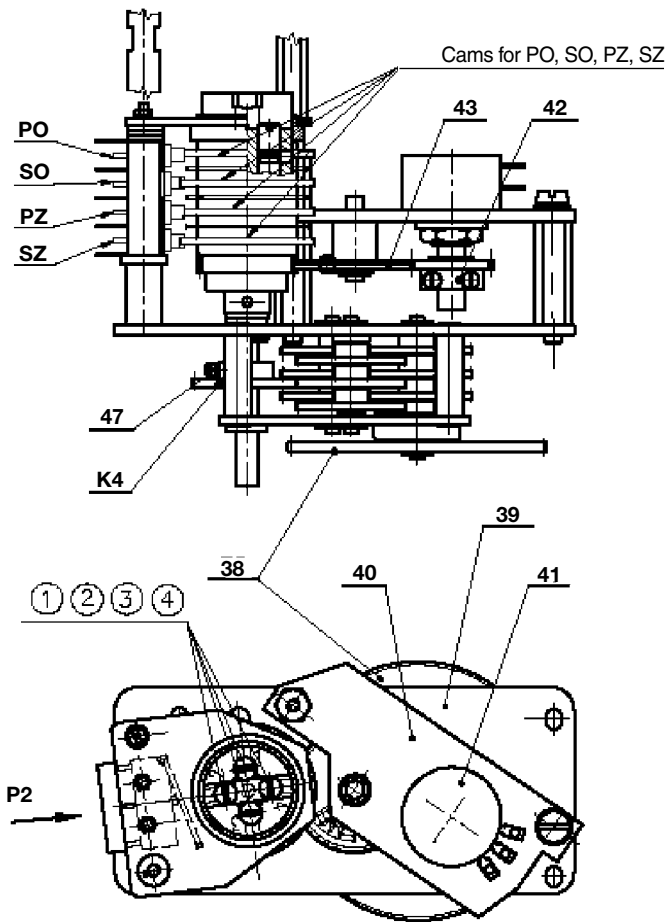

Fig. 3 - Position-limit switching and signalling unit with resistance transmitter
- Figs. 3 and 4 – provides for tripping of the position-limit switching units PO or PZ after the set number of revolutions of the output shaft has been reached and, by means of signalling switches SO and SZ, sending electric signal for signalization of position of the output shaft of the actuator. The unit drive is realized by gearwheel 38 from the output shaft via the multi-speed gearbox to cams controlling micro-switches PO, PZ, SO, SZ. The moment of closing of the signalling switches can be chosen at any point of the working stroke of the actuator except for a narrow range around the limit positions (the signalling switch must close before the position-limit switching unit when the output shaft is still in motion).
Layout of cams and micro-switches of the position-limit switching and signalling unit is shown in Figs. 3 and 4. Shoulders of cams control the micro-switches PO, PZ, SO and SZ.
Numbers of particular releasing screws (1, 2, 3, 4) are given on the shaft of cams of the position-limit switching unit (Fig. 3 and 4). After releasing, rotate the cam in the direction opposite to motion of the output shaft of the actuator during setting the position “close” or “open” until the micro-switch changes over. In this position, secure the cam by tightening the releasing screw (in the clockwise direction).
Decisive aspect in setting is whether in the position “close” resistance should be low (*lower limit of the resistance travel*) or high (*upper limit of the resistance travel*). If low resistance is chosen for the position “close”, terminals 30, 31 must be connected on the terminal board; for high resistance, terminals 31, 32 should be connected. In setting the resistance transmitter, loosen the screw and bolt for the position indicator holding the transmitter supporting plate pos. 40 (*Fig. 3*) two revolutions of the hand wheel before the position “close” and shift the transmitter wheel out from engagement. Then, set the transmitter by rotating the shaft to the lowest value of resistance (*less than 4 ohm*), bring it back to engagement, and retighten the bolt and screw. Finally set the minimum resistance value of the transmitter by rotating the hand wheel to the position “close”. On starting the actuator or rotating the hand wheel to “open”, resistance will begin increasing until the value of resistance is reached which corresponds to the limit position “open” (*max. 96 ohm*).